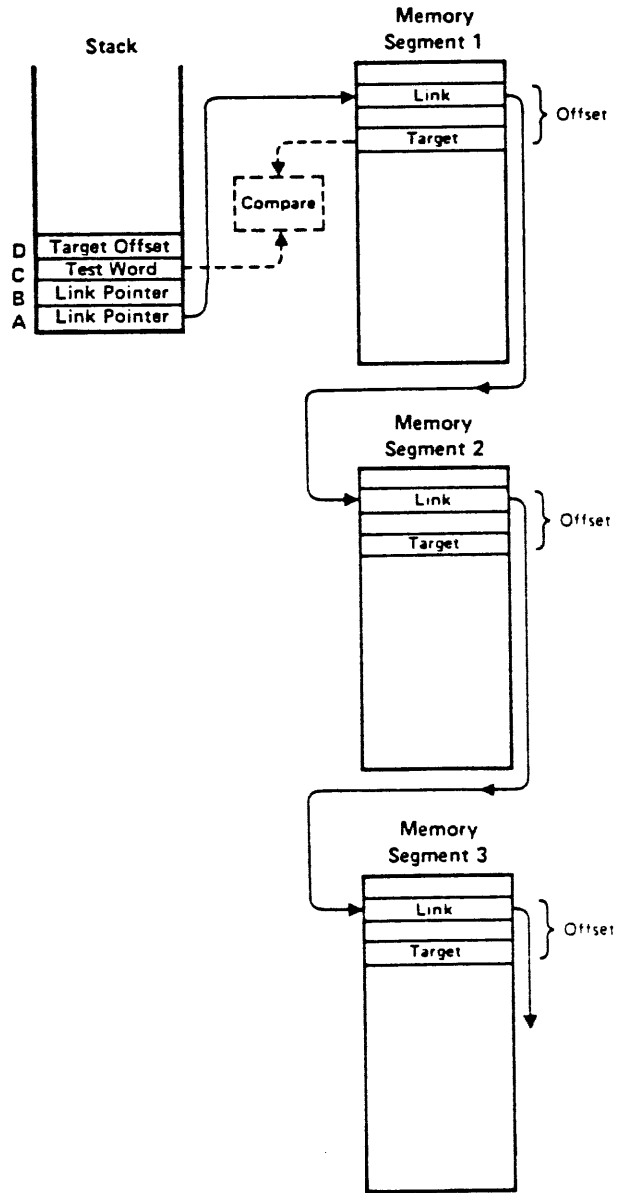

Figure 2-15. LLSH Operation
Figure 2-15 illustrates the basic operation of the LLSH instruction. As shown, the top-of-stack (A) contains a 16-bit absolute address within a bank designated by the contents of B. At all times, in successive fashion, this link pointer contains the absolute address of the link word in the segment currently being tested. Location C in the stack is the test word which would typically be a 16-bit number indicating the size of the segment which is to be brought into memory. Location D is an offset indicating how far the target word is from the link word. Thus as shown, the comparison is between the test word and each target word.